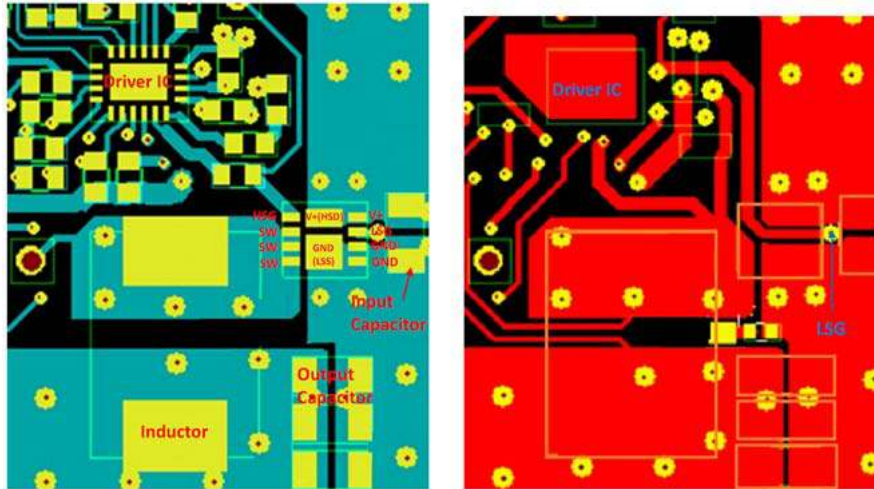

Figure 3. Top/Component (green) View and Bottom (red) PCB View
Figure 3 shows an example of a well designed layout. The discussion that follows summarizes the key features of this layout.
- "The SW to inductor copper trace is a high current path. It will also be a high noise region due to switching voltage transients. The trace should be short and wide to enable a low resistance path and to minimize the size of the noise region. Care should be taken to minimize coupling of this trace to adjacent traces. The layout in Figure 3 shows a good example of this short, wide path.
- "The Power Trench® Technology MOSFETs used in the Power Clip are effective at minimizing SW node ringing. They incorporate a proprietary design1 that minimizes the peak overshoot ring voltage on the switch node (SW). They allow the part to operate well within the breakdown voltage limits. For most layouts, this eliminates the need to add an external snubber circuit. If the designer chooses to use an RC snubber, it should be placed close to the part between the SW pins and GND / GND (LSS) PAD to dampen the high frequency ringing.
- "The Power Clip has very good Junction-PCB heat transfer from all power pins. It has much better heat transfer Junction-GND (LSS) than traditional dual FET packages. In most cases, board ground will be the most effective heat transfer path on the PCB. Use a large copper area between GND / GND(LSS) PAD pins and board ground. To ensure the best thermal and electrical connection to ground, we recommend using multiple vias to interconnect ground plane layers as shown in Figure 3.